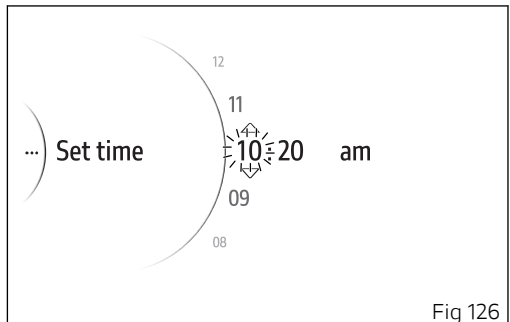

Fig 126
- Use buttons (1) and (2) from the Interactive Menu to select the "Setting menu" item and press ENTER (3).
- Select the "Date and time" item and press ENTER (3).
- Select the "Set time" item and press ENTER (3).
The hour number becomes flashing and is displayed with two arrows placed above and below it; the available values are also displayed (Fig 126). Use buttons (1) and (2) to scroll and select the desired value. Press ENTER (3) to confirm and move on to the following parameter.